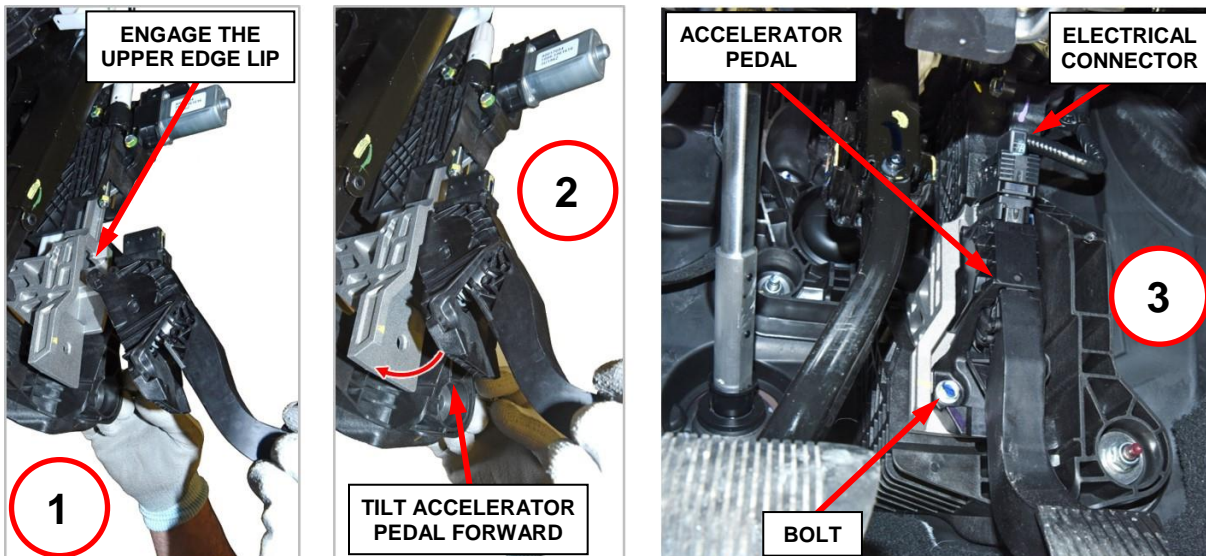

Figure 8 – Install Accelerator Pedal to Adjustable Pedal Assembly
10. Tilt and install the accelerator pedal (Figure 8).
11. Install the bolt securing the accelerator pedal. Tighten the bolt to 8 N·m (71 in. lbs.) (Figure 8).
12. Connect the accelerator pedal electrical connector (Figure 8).